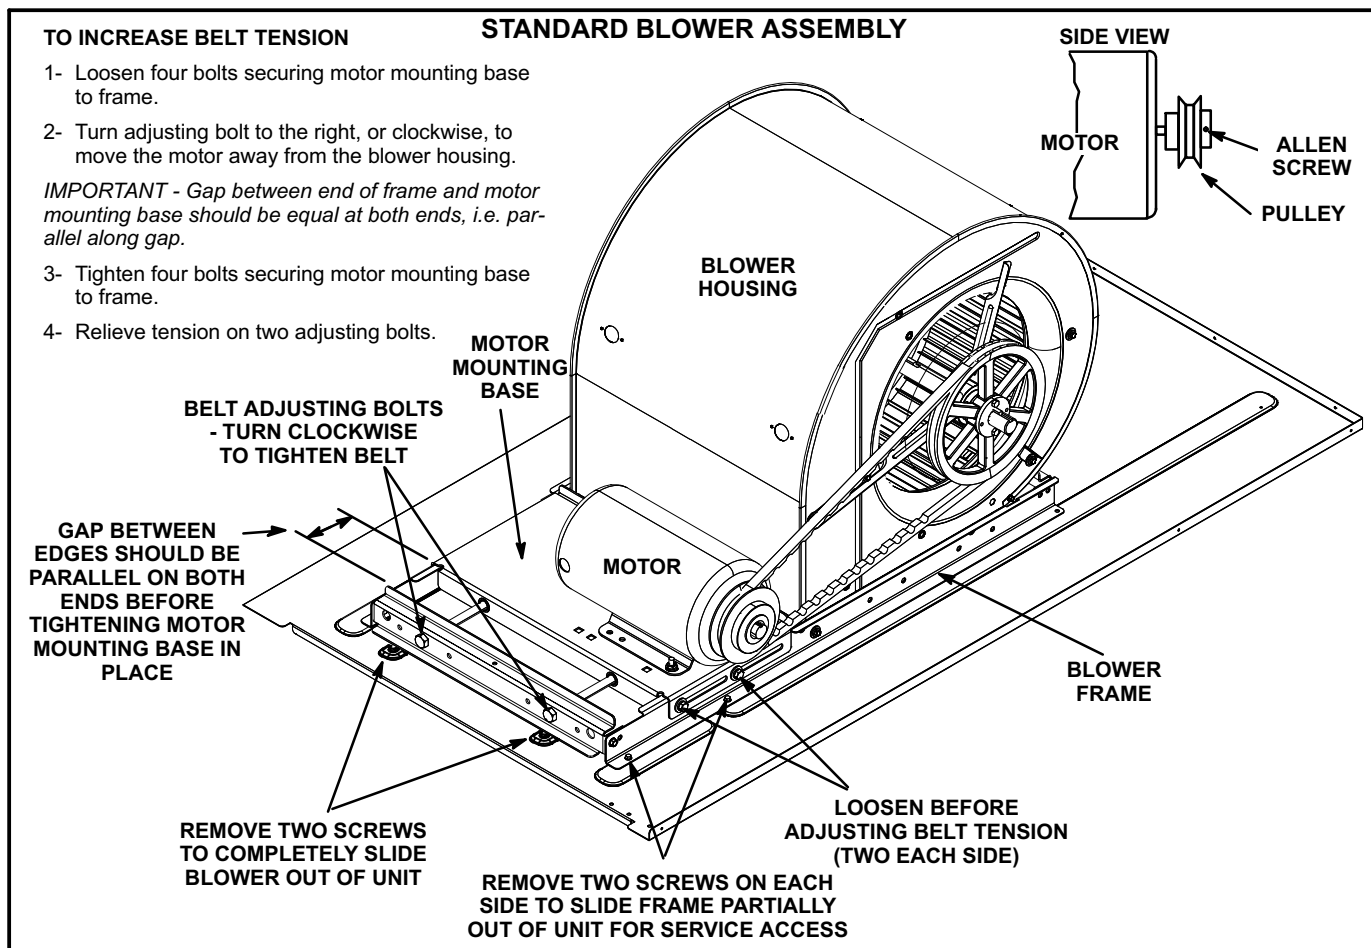

FIGURE 16
- 4- The blower RPM can be adjusted at the motor pulley. Loosen Allen screw and turn adjustable pulley clockwise to increase CFM. Turn counterclockwise to decrease CFM. See figure 16. Do not exceed minimum and maximum number of pulley turns as shown in table 1.
- 1- Loosen four bolts securing motor base to mounting frame. See figure 16.